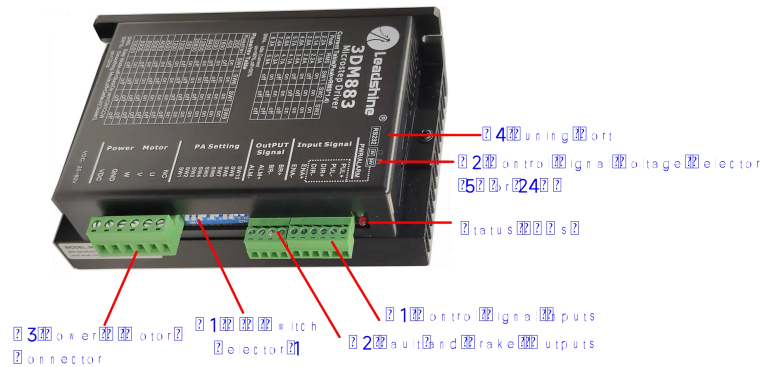

Figure 2 Connectors, DIP switches, and LED locations
DIR- (CCW-)	(4) Single pulse (step & direction) or double pulse (CW/CCW) is set by DIP Switch SW9 (5) DIR signal requires advance PUL signal minimum 5 μs in single pulse mode (6) The factory setting of control signal voltage is 24V, must need to set S2 (figure 2) if it is 5V
- (1) ENA signal is no-connected as default;
- (2) Control signal amplitude is 24 V as default. If it is 12 V, please set the S2 (Figure 2) selector switch to 5 V first, then connect 1K Ω resistor; If it is 5V, please set the S2 to 5V.
The second 1-bit selector is located on the top (S2 in figure 2), used to configure the voltage of control signals. For the safety of optically coupled, the factory setting is 24V, which no need to connect 2K resistors like the old drives, making it easier to use. When the voltage of the control signal is 5V, the S2 must be set to 5V, otherwise, the motor won't work.